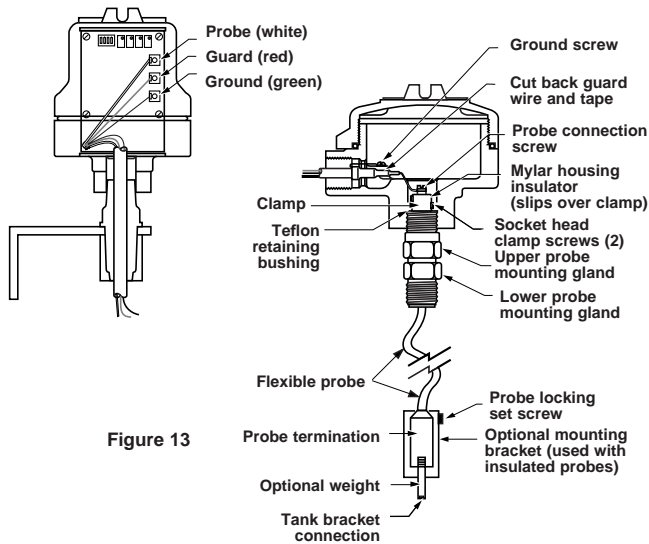

Figure 13
Remote electronic housings are normally shipped from the factory assembled into an L mounting bracket. To install the electronic housing, proceed as follows. Refer to **Figure 13**.
1. Unscrew probe from probe housing. Remove mylar housing insulator located over the clamp. Refer to **Figure 13**.